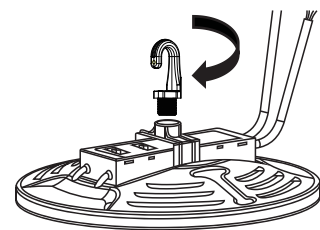
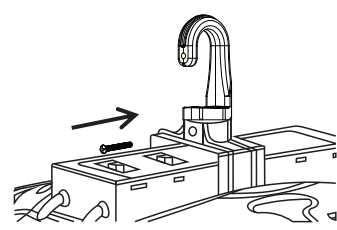

FIG 1.1
FIG 1.2
1. Screw in the hook first (FIG 1.1), then tighten the side lock screw (FIG 1.2);